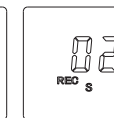

Fig.4
(2).To set the data sampling time interval. Press **MODE** again, the sign "REC" and "S" would both flickering(Fig.4).